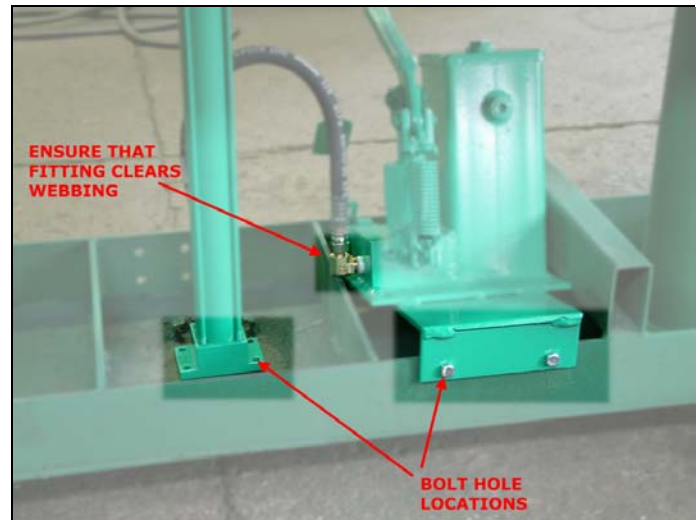

Figure 1 – STN Installation
1. To remove the hydraulic unit (see figure 1), raise the table about 4" and brace the top by placing two or more 2x4 dimensional lumber (or suitable brace) between the base and top to hold the top in raised position. Open the release valve and pull down on the hydraulic ram. Remove the bolt(s) that holds the hydraulic unit to the base of the table. Chisel or grind off the clips that hold the front of the hydraulic unit, if any exist.
3. Position the hydraulic cylinder in the table as shown in Figure 1. Align the height adjustment stud with the ram cup on table top. You may have to extend the cylinder rod.
5. Position the hydraulic pump in the table as shown in Figure 1. The bracket should hang over the outside of the frame and there should be about 1/8" – 1/4" of clearance between the frame webbing and the hydraulic fitting.